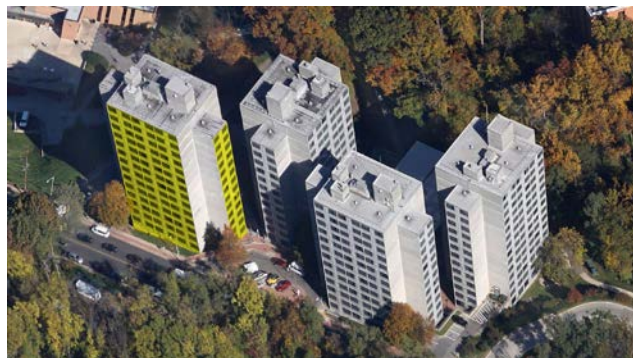

Figure 8a – Example of Partially Occupied Tower Phasing
- Phasing alternatives allowing for partial occupancy would require coordination with the Construction Manager to determine the most effective approach. Consideration has been given to work on two (of four) building facades simultaneously, or one half of the buildings levels (lower half/upper half). These options can be seen in Figures 8a and 8b.